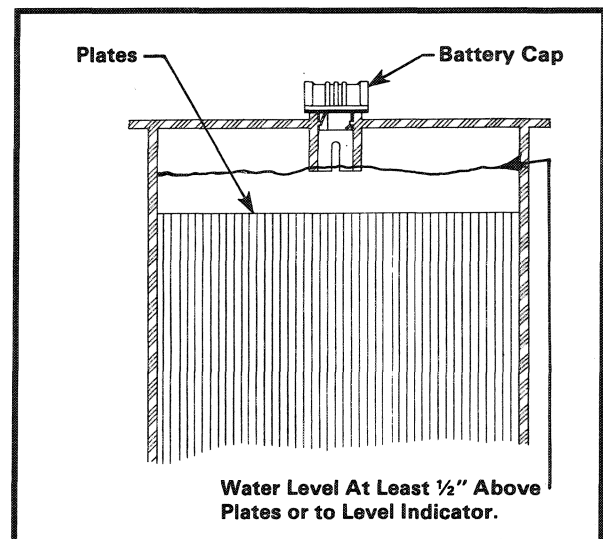

Figure 9
2. The water level in the batteries should be checked weekly (See Figure 9 for proper level). Add water only after charging unless the water level is below the top of the plates. In this case, add just enough water to cover the plates, charge and then check the level again. For best battery life, add only distilled water to the batteries.